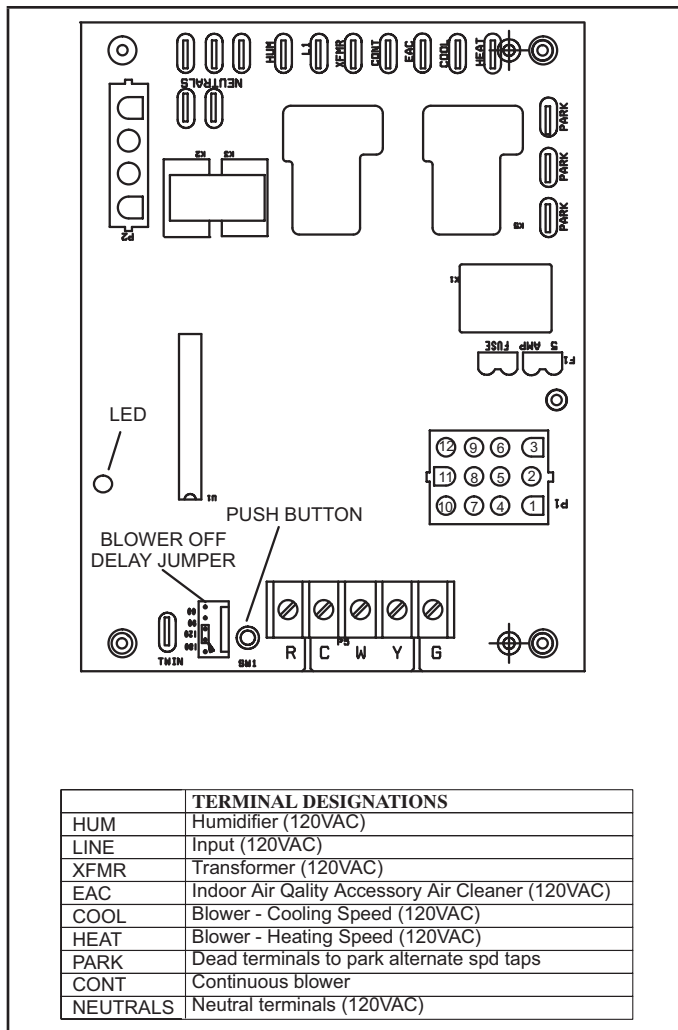

FIGURE 2
**5 - Insert the provided 6" loose white wire into position 2 on the 12-pin connector, and then splice to the white/red flame sense wire in the furnace. Cut wire terminal, strip wires, and join with wire nut as appropriate. Refer to figure 2 for pin location. Connect 12-pin connector to the replacement control.**